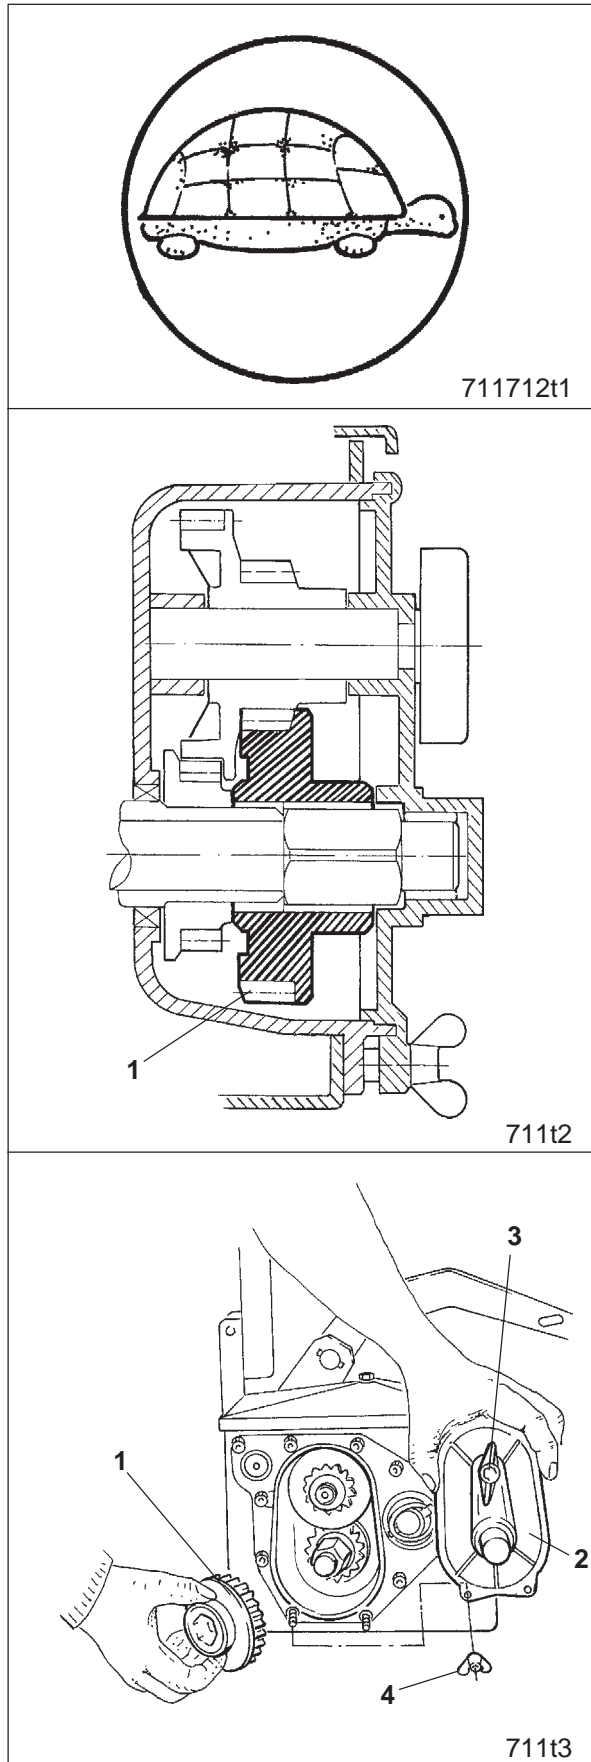

Fig. 10.14
slow speed (see Fig. 10.14)
- Open lid (Fig. 10.14/2) after having removed the thumb nut (Fig. 10.14/3) and the two wing nuts (Fig. 10.14/4)
in the „slow speed“ the pinion (Fig. 10.14/1) is matching with the second pinion,
- Put lid (Fig. 10.14/2) back in place